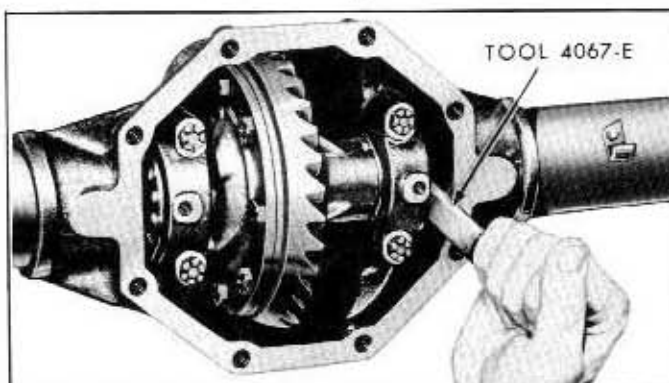

Fig. 4-31—Backlash and Bearing Preload Adjustment—(60C-5221)
12. Install the bearing cap bolts and lockwashers. As the bolts are tightened, turn the adjusting nut with Tool 4067-E shown in figure 4-31.